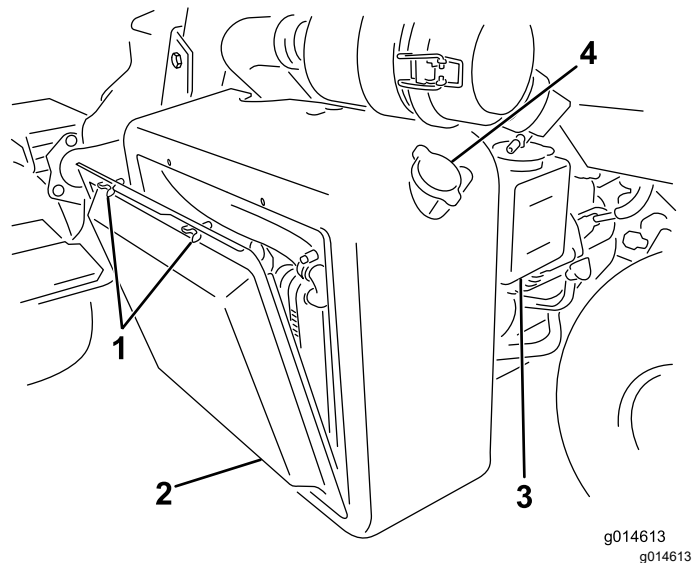
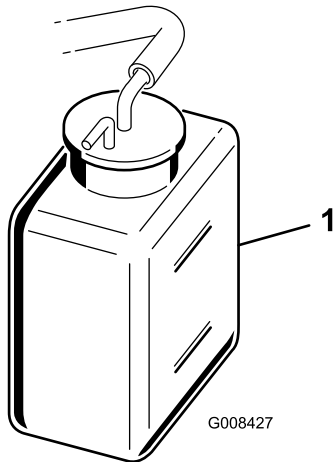

Figure 46
Figure 47
1. Remove the radiator screen (Figure 46).
2. Check the coolant level (Figure 46 and Figure 47).